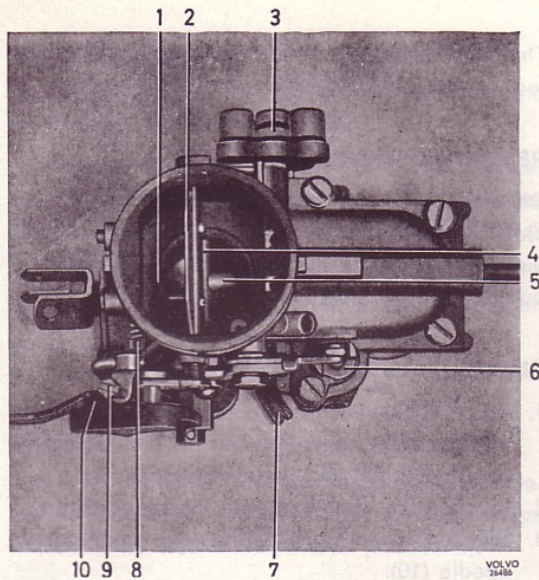

Fig. 85. Position of venturi
The emulsion block nozzle (5, Fig. 85) should be in contact with the stay across the venturi. If not, loosen the venturi screw and adjust its position.
The pump plunger can be adjusted to a short or long stroke by means of the washer (6, Fig. 85). To alter the stroke length, lift the washer and turn it half a turn. The short stroke is the normal adjustment, in other words, the highest cam lobe on the cam washer faces the spring on the lever.
Screw out the fast idle adjuster screw (9, Fig. 85) so that it comes flush with the underside of its bracket. Then screw down the screw three and a half turns. Push in the choke control.
1. Adjust the idling speed to 500–700 r.p.m. by using the screw (8, Fig. 85) on the throttle flap lever.
2. Adjust the fuel/air mixture with the idle screw (7). First screw inwards (leaner mixture) until the engine begins to run roughly and then slowly outwards until the engine runs evenly.